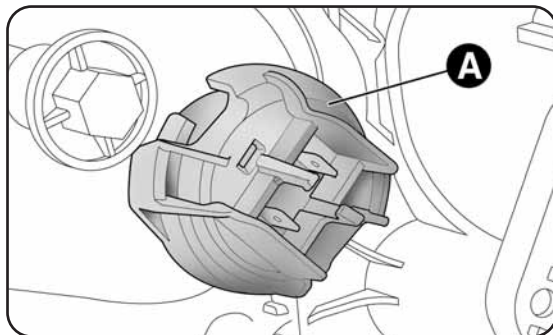

fig. 24
- remove cover A-fig. 24 protecting the bulb;